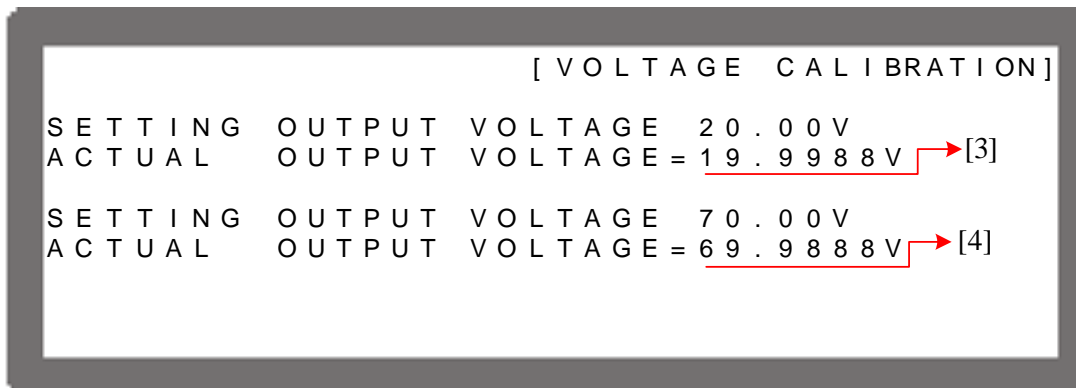

Figure 3-97
- (7) Press the “” to do the high voltage range calibration (80V), the instrument will set the output voltage to 20.00V first and the cursor is stopped at position [3] as Figure 3-97 shows. Enter the voltage measured by DVM (4 digits after decimal point) and press “” to confirm.
- (8) Press the “” again to do the high voltage range calibration for its second point, the instrument will set the output voltage to 70.00V and the cursor is stopped at position [2] as Figure 3-97 shows. Enter the voltage measured by DVM (4 digits after decimal point) and press “” to confirm.